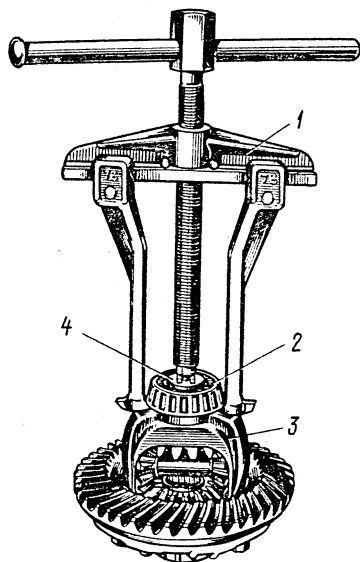

Fig.3-64. Removing the Inner Race of Differential Pinion Cage Bearing:
- remove roller bearing inner races 2 (Fig. 3-64) from pinion cage 3 using general-purpose remover tool A.40005/1/6 and stop A.45028;